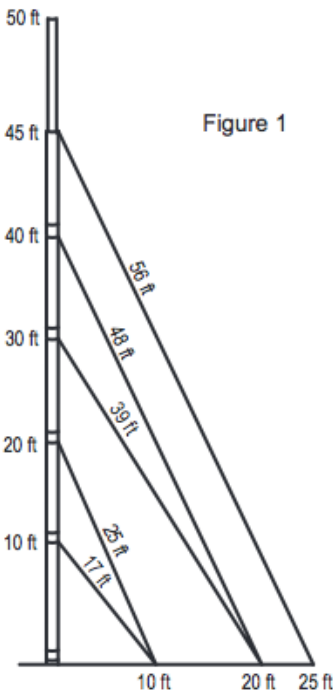

Figure 1
2. Position anchor points for the guy wire. (See Figure 1)
3. Attach guy wire (four (4) locations are recommended) to the lowest guy ring and wrap guy wire at least six (6) turns around itself. (See Figures 1 and 2)